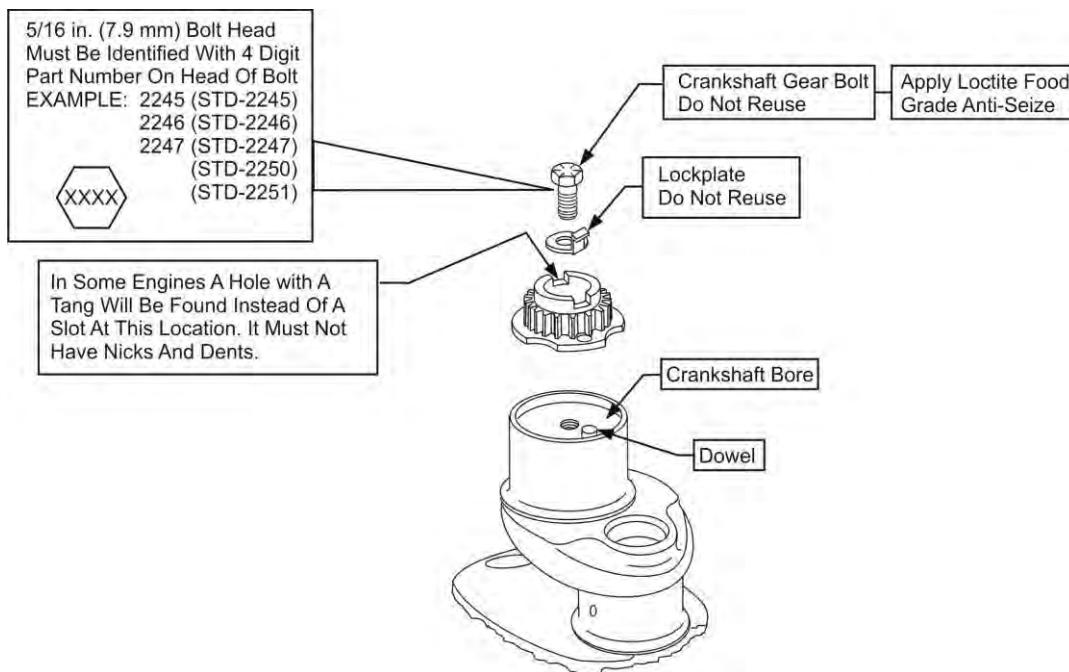

Figure 38
- (1) Start with a clean crankshaft that passed the “Crankshaft Inspection” in this chapter.
- (2) Make sure the mating surfaces of the crankshaft gear and crankshaft counterbored end are clean and dry and that there is no debris. Refer to the procedure “Crankshaft Cleaning” and Crankshaft Counterbore Cleaning” in Chapter 5-30 in this manual.
- (3) Install the crankshaft gear on the alignment dowel of the crankshaft counterbored end as shown in Figure 38.
- (4) Refer to the latest revision of Service Bulletin No. SB-475 or the **IO-360-N1A Illustrated Parts Catalog** to identify the correct part number for the new crankshaft gear bolt and lockplate for the applicable crankshaft gear part number.
- (5) Make sure that the threads on the new crankshaft gear bolt (Figure 38) and the threads in the counterbored end of the crankshaft are clean and dry and that there is no debris.
- (6) Apply a small amount of Loctite® Food-Grade Anti-Seize Lubricant, (Table 4), to the bottom three or four threads of the new crankshaft gear bolt. Wipe away any excess lubrication.